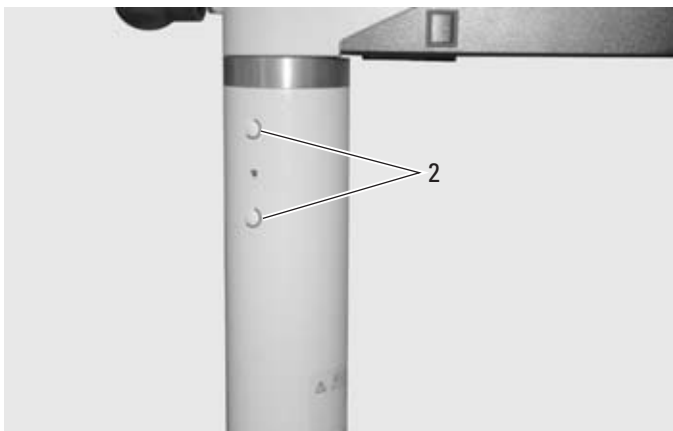

Fig. 2
⇒Press in the 2 covers (2) for the bore holes (Fig. 2).